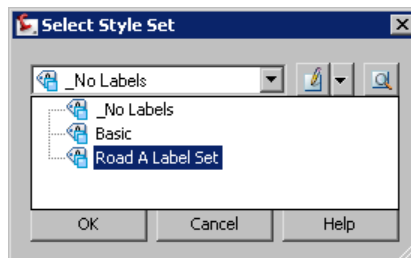

Figure 6-67 The Road A Label Set option selected from the drop-down list in the Select Style Set dialog box
2. Choose **Edit Labels** from the shortcut menu; the **Profile Labels - Profile A (1)** dialog box is displayed.
3. Choose the **Import label set** button located at the bottom right corner of **Profile Labels - Profile A (1)** dialog box; the **Select Style Set** dialog box is displayed.
4. Select the **Road A Label Set** option from the drop-down list displayed in the **Select Style Set** dialog box, as shown in Figure 6-67.